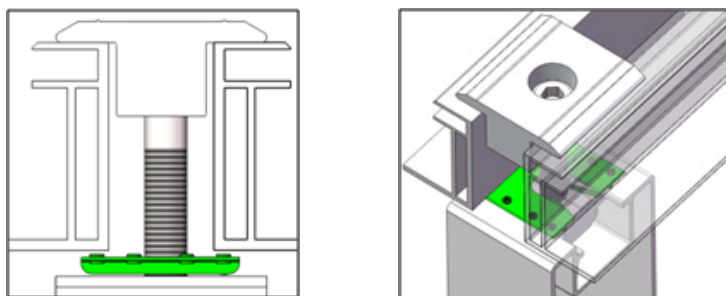

Fig. 25
Step 3 Place the next framed PV Module into the other side of Inter Clamp and Grounding Clip as shown in Fig. 25.